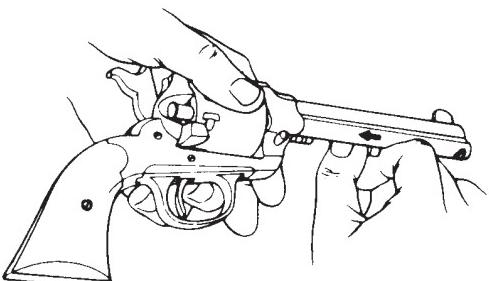

FIG. 3
- To eject the empty cartridge cases, move the hammer back to the loading position, open the loading gate, and turning the cylinder by hand, bring one of the chambers into line with the ejector rod. The ejector is then moved rearwardly by means of the thumb-piece on its forward end so that it will slide through the chamber and push out the fired cartridge case (Fig. 3).